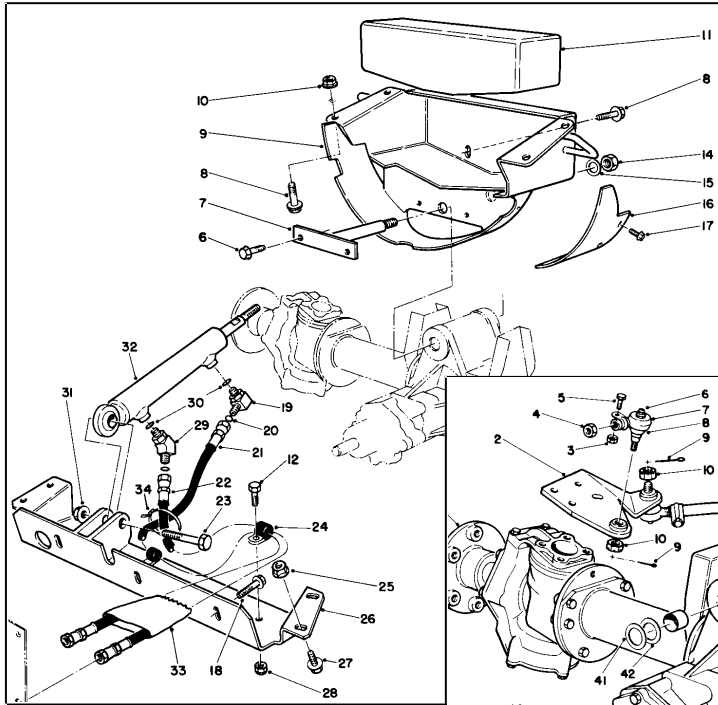

Figure 10A
5. Loosen rear wheel capscrews (Fig. 10A, Item 23).
8. Remove nut (Fig. 10A, Item 14) and flatwasher (Item 15). Remove capscrews (Item 6) from pin (Item 7). Remove the pin. This will release the rear axle and washers from the support (Item 9). Carefully pull the axle out from under the machine.